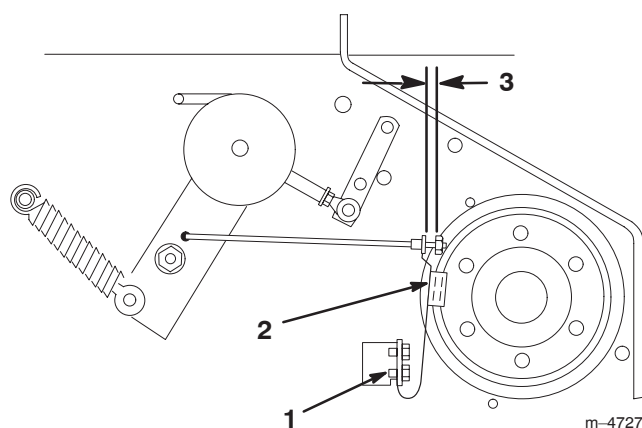

Figure 46
3. If necessary, adjust the spring mounting bolts so that the blade brake pad rubs against the pulley edges (Fig. 46).
4. Adjust the nut at the end of the blade brake rod until there is 1/8–3/16 inch (3–5 mm) between the nut and the spacer (Fig. 46).